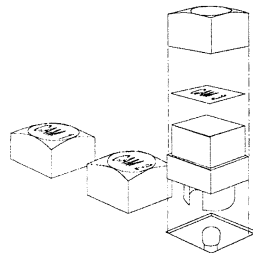

Fig. 1 Control panel keys
- Remove the key cover and the label-holder diffuser by pulling it upwards as shown in figure 1.